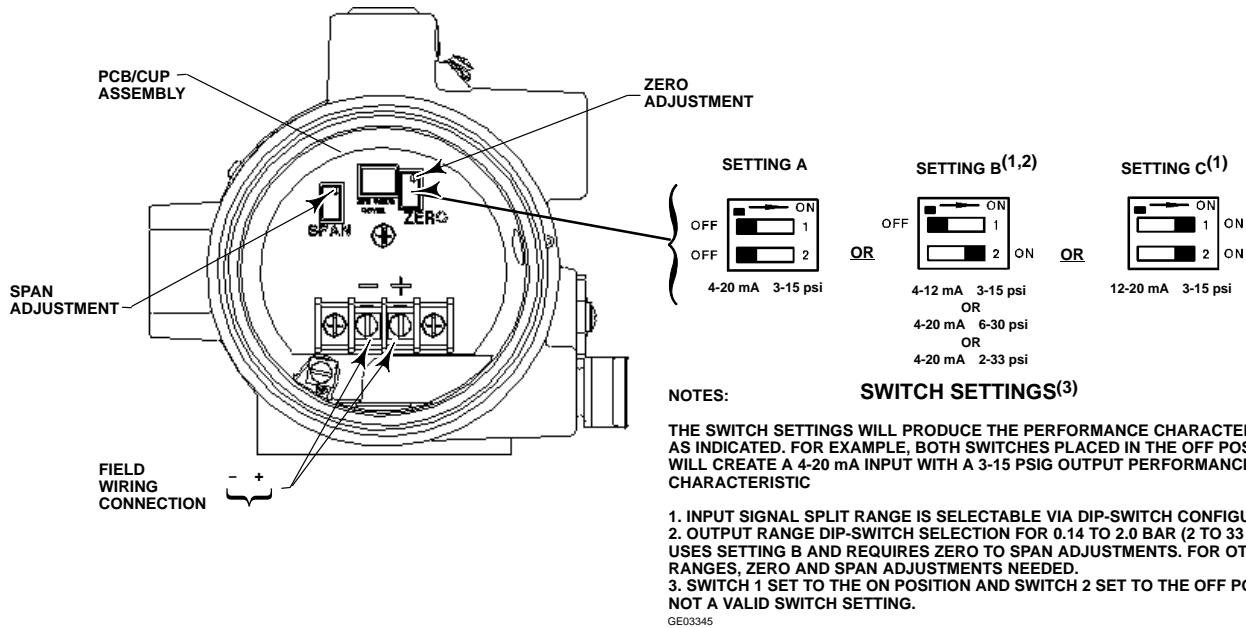

Figure 10. Zero and Span Adjustments and Switch Settings
Refer to figure 10 for adjustment locations.
- Input and output ranges are selectable by dip switch selection. Refer to figure 10 for dip switch settings. Adjust dip switch settings and zero and span as necessary to achieve the desired input/output range.
3. Check switches and ensure that they are properly set. Refer to figure 10.